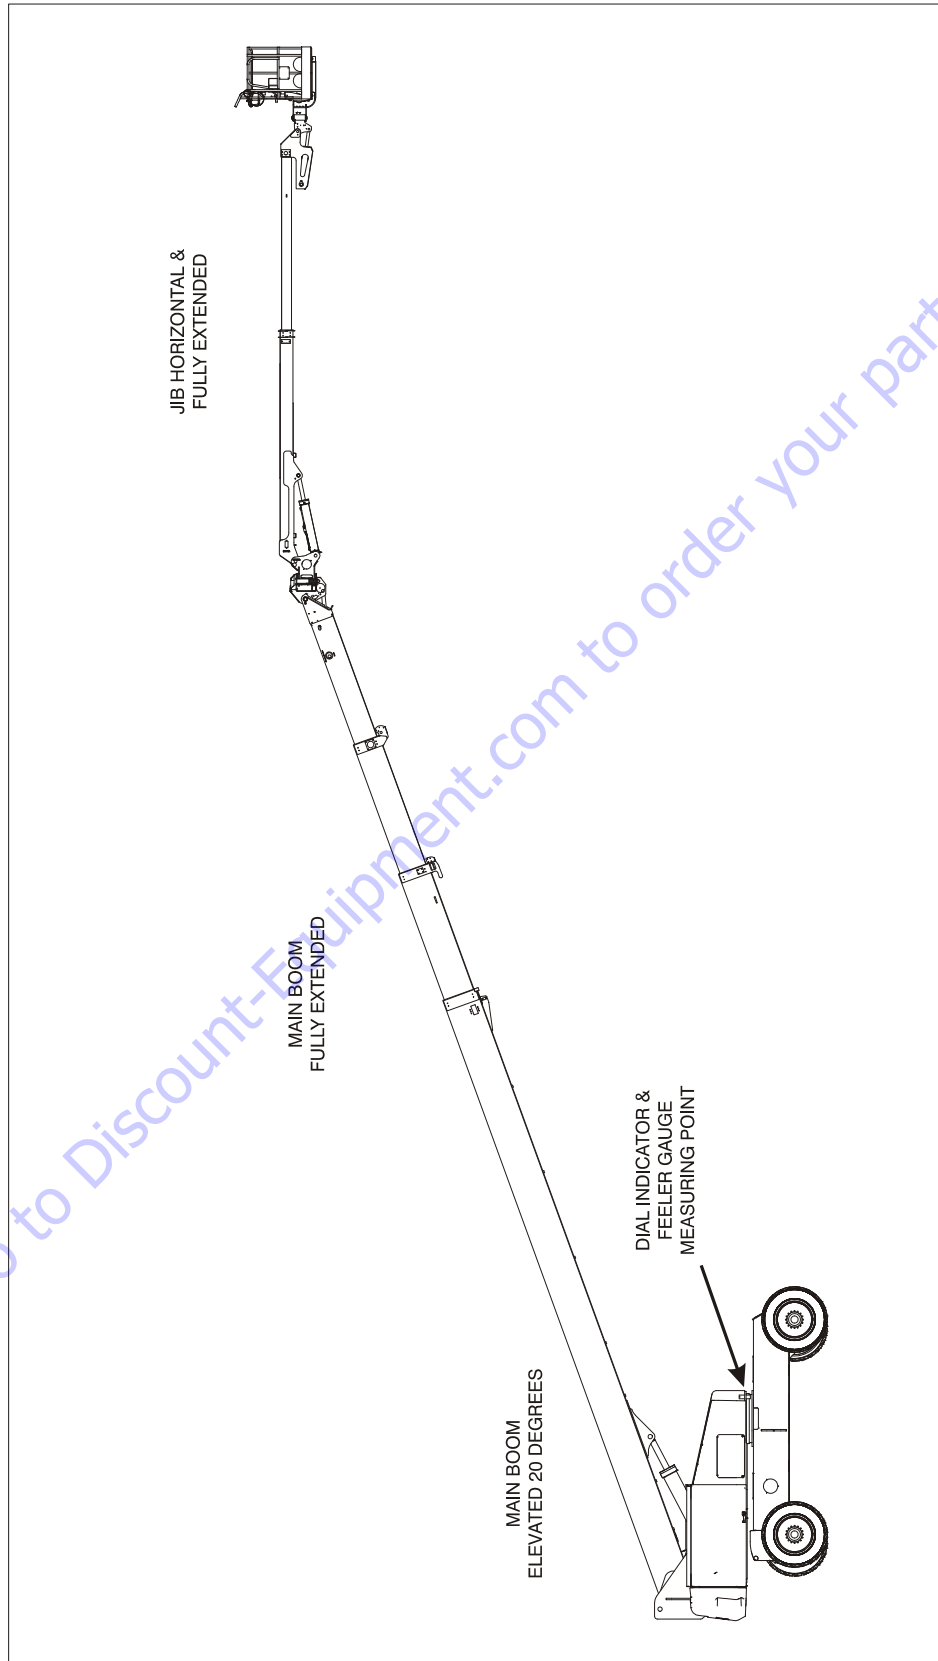

Figure 3-49. Swing Bearing Tolerance Boom Placement - Sheet 2 of 2
- d. At the position indicated on Figure 3-49., try and insert the 0.0015" feeler gauge between the bolt head and hardened washer at the arrow indicated position.
2. Next, position the main boom fully extended and horizontal as shown in Figure 3-49., Swing Bearing Tolerance Boom Placement - Sheet 2 of 2. Read the measurement recorded on the dial indicator gauge.